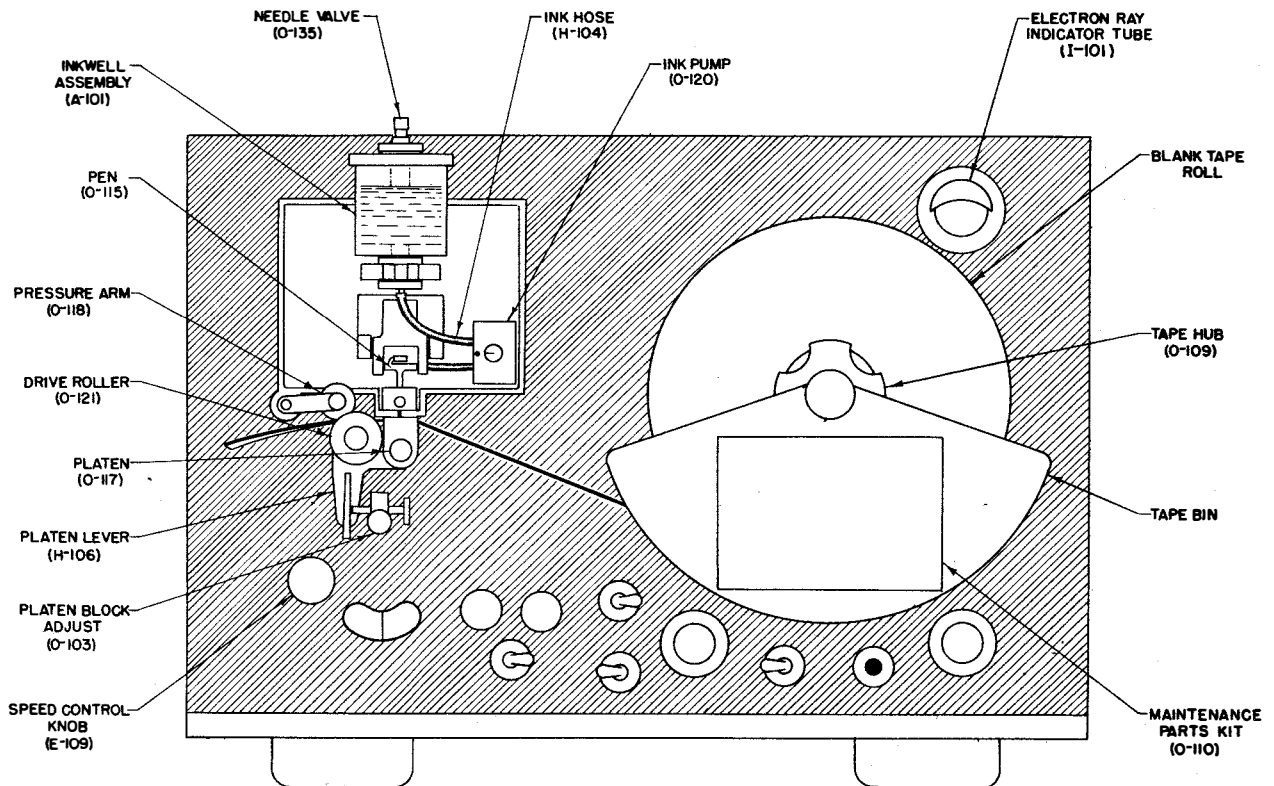

Figure 4-2. Recorder Front Panel Components
g. SIGNAL LEVEL INDICATOR. Electron ray indicator I-101 (See Fig. 4-2 in Section 4), provides visual indication of the signal level and is used in conjunction with the selective input filter Z-101. The indicator responds to changes in signal level produced when the input signal frequency varies through the pass band of filter Z-101. When the input frequency is adjusted to 1875 c.p.s., (the design center frequency of the filter), indication is shown by maximum closure of the "eye" of electron ray indicator tube V-109. A portion of the filter output voltage is amplified by V-107 and rectified by V-108. The rectified voltage, which varies in accordance with the average signal level, is applied to the control grid of V-109.